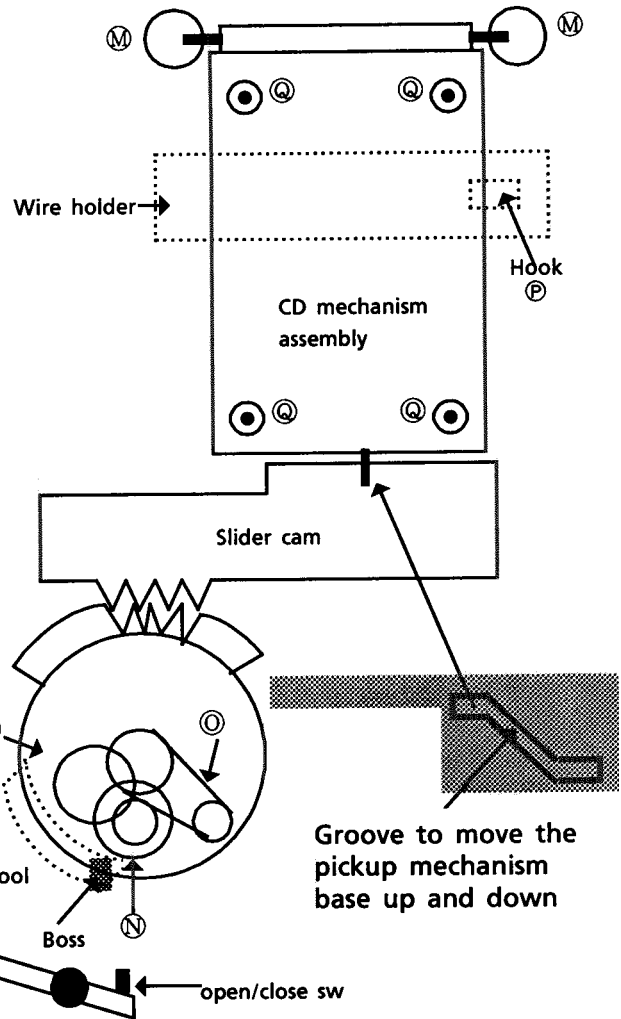

Fig 7 Loading mechanism
4. Remove the gear ⑫(Fig. 7).
5. Remove the loading belt ⑬(Fig. 7).
5. Remove the hook P fixing the table mechanism base, and remove the wire holder (Fig. 7).
6. Remove the 2 screws M (Fig. 7).
7. Remove the 4 screws Q (Fig. 7).